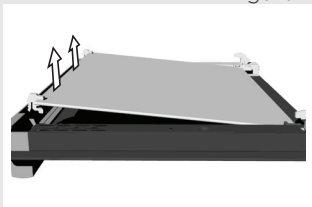

Figure 3
- To remove the third inside glass (only with some models), lift and remove it. Also remove the rubbers on the glass (Figure 3).